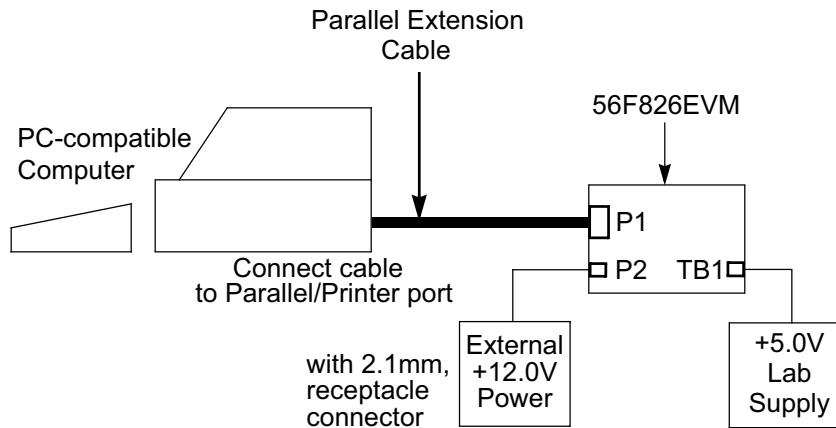

Figure 1-3. Connecting the 56F826EVM Cables
An interconnection diagram is shown in Figure 1-3 for connecting the PC and the external +12.0V DC power supply or external +5.0V DC lab power supply to the 56F826EVM board.
2. Connect the other end of the parallel extension cable to P1 on the 56F826EVM board as shown in **Figure 1-3**. This provides the connection which allows the host computer to control the board.
4. Connect the 2.1mm output power plug from the external switching power supply into P2 on the 56F826EVM board, as shown in **Figure 1-3**. Optionally, attach an external +5.0V DC lab power supply via the 2-pin terminal block, TB1.